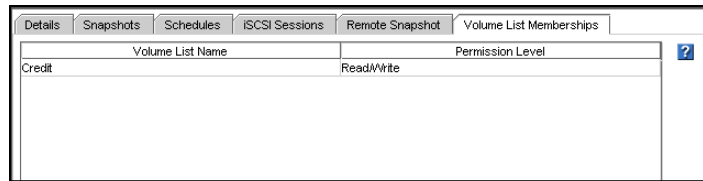

Figure 189. Confirming Permission Level Changes for a Volume List
6. In the volume tab window, select the Volume Lists Membership tab, shown in Figure 189, to review your changes.